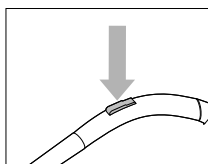

fig. 3
2. Adjust the Suction control knob on the curved handle to control the suction. The suction will be reduced with a larger air opening. See fig.3